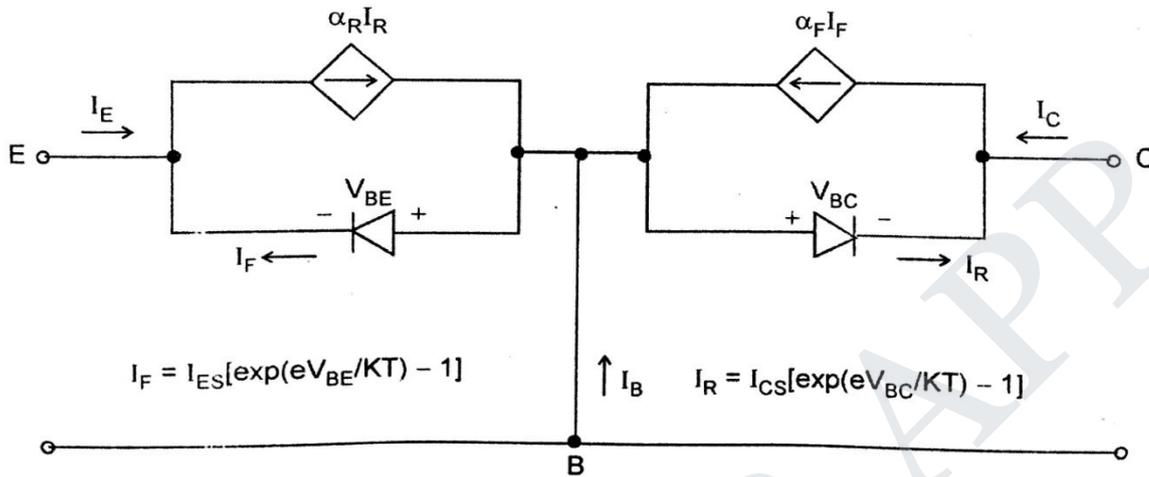

Fig. 2.28: Basic Ebers-Moll equivalent circuit
Figure 2.28 shows the Ebers-Moll equivalent circuit.
From Figure 2.28, the emitter current can be written as:
Figure 2.28 shows the equivalent circuit corresponding to Equations (6) and (8). The current sources in the equivalent circuit represent current components that depend on voltages across other junctions. Ebers-Moll model has four parameters: α_F , α_R , I_{ES} and I_{CS} . The reciprocity relationship states the: